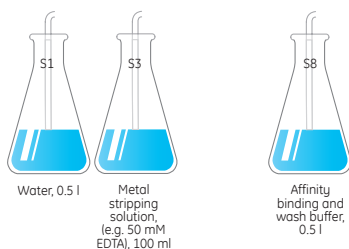

Fig 1. Solutions required for the "Metal Ion Stripping" template.
- Prepare required solutions, see Figure 1.
- Place the inlet tubings in the solutions according to Figure 1.